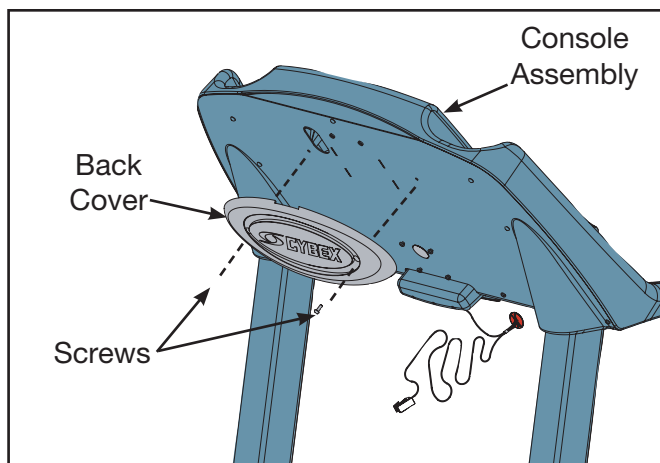

Figure 9
**E.** While being sure not to pinch any cables, use a Phillips screwdriver to secure the seven screws 8-16 x .50" (#14) that hold the console assembly (#2) to the console back (#4). See Figure 9.
**F.** Using a Phillips screwdriver secure the two screws (#13) securing the console assembly (#2) to the upright assembly (#3). See Figure 9.